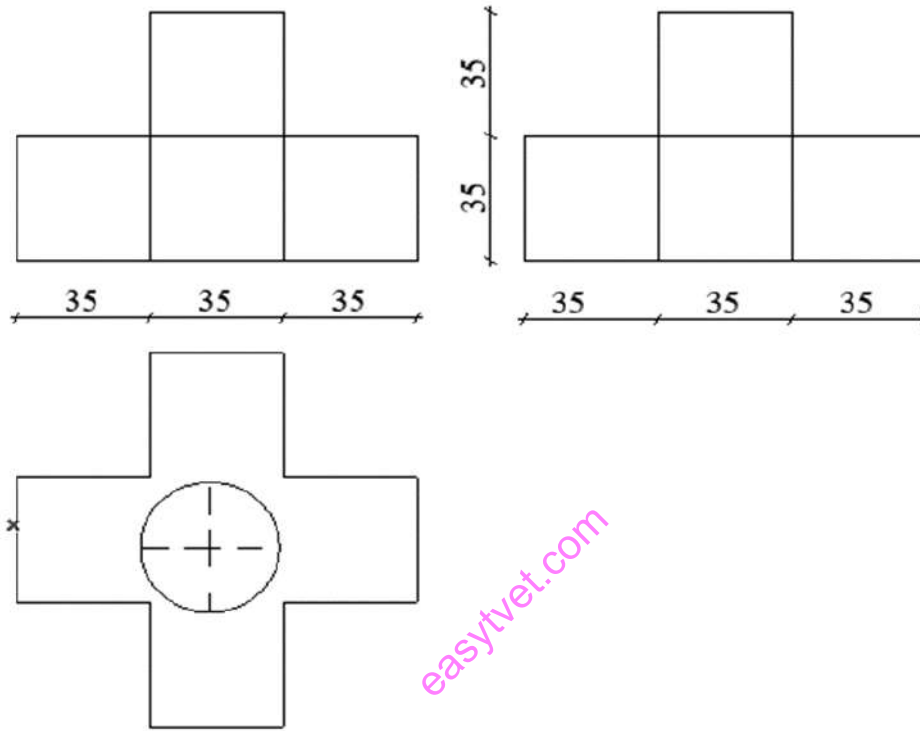

Figure 1
11. Figure 1, shows orthographic views of an object. Draw the object in isometric projection. (20 Marks)